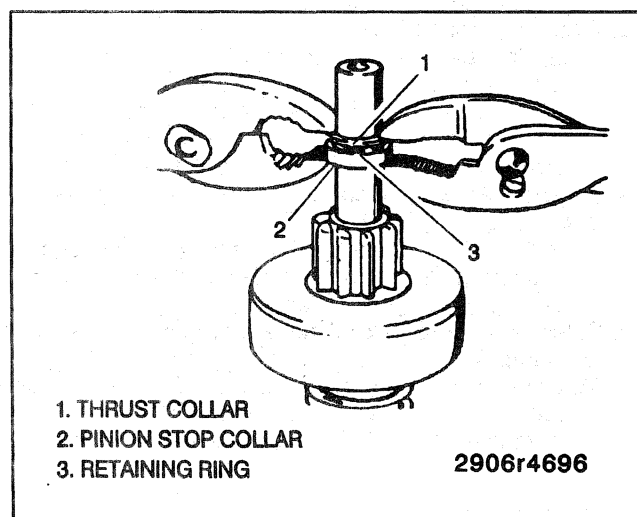

Figure 10—Forcing the Collar over the Retaining Ring
- Using two sets of pliers, push the pinion stop collar and thrust collar together to snap the stop collar onto the retaining ring (Figure 10).